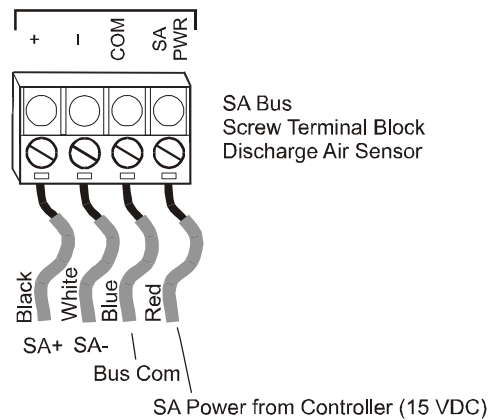

Figure 2: Wiring to the SA Bus Screw Terminal Block
5. Wire the discharge air sensor to the SA Bus screw terminal block as illustrated in Figure 2.